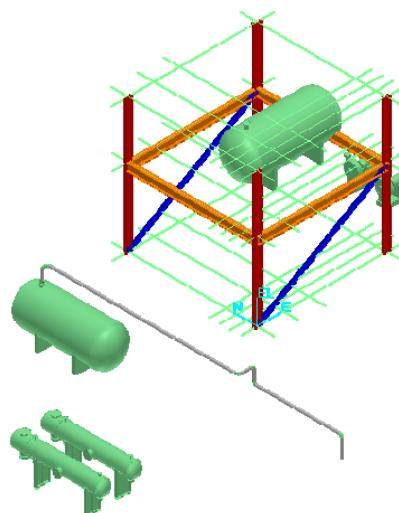

Figure 26: Routed 400-P Pipe
27. Right-click in the graphic view to terminate the **Route Pipe** command. The routed pipeline **400-P** should resemble Figure 26.